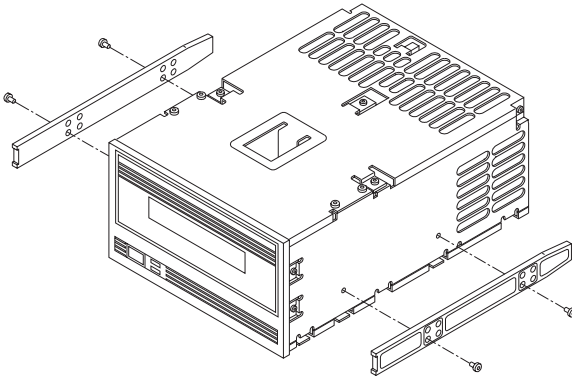

Figure 6 Attaching the slide rails to the tape drive
2. Use #6 3/32 screws to attach two slide rails to the sides of the tape drive (see Figure 6). The tapered end of each rail should point toward the rear of the tape drive.